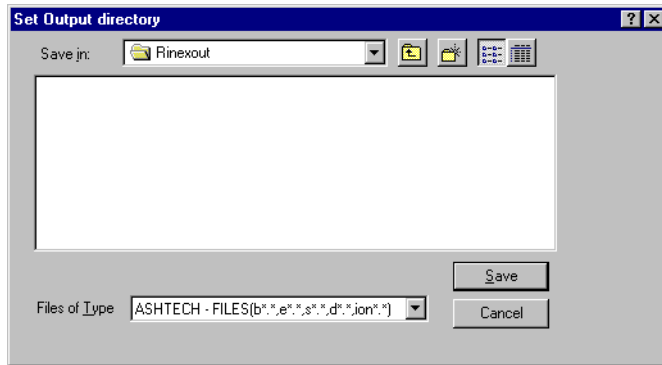

Figure 7.11: Set Output Directory Dialog Box
6. Click **Output dir** to open the **Set output directory** dialog box (Figure 7.11).